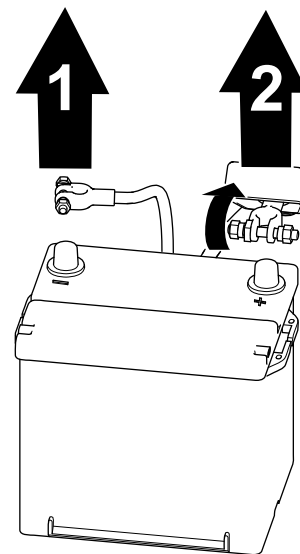

Figure 58
1. Remove the negative battery cable from the battery post (Figure 58).
2. Lift the insulator and remove the positive battery cable from the battery post (Figure 58).